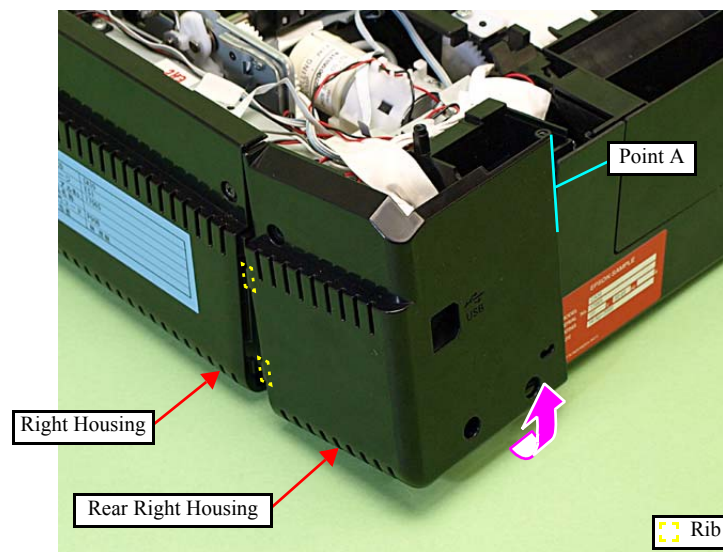

Figure 4-221. Removing the Rear Right Housing (2)
- When installing the Rear Right Housing, insert the ribs (x2) of the Rear Right Housing to inside of the Right Housing. (See Fig. 4-221.)
- When installing the Rear Right Housing, align the point A of the Rear Right Housing with the inside of the Base Frame. (See Fig. 4-221.)